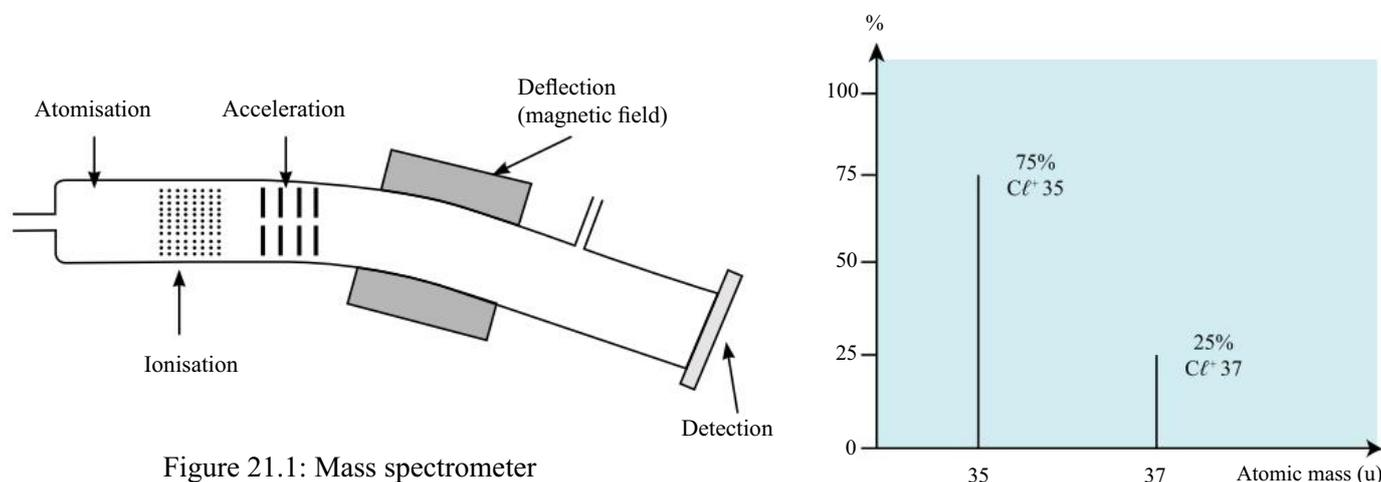

Figure 21.1: Mass spectrometer
8. Refer to the Figure 21.1 on page 149 to help answer the questions.